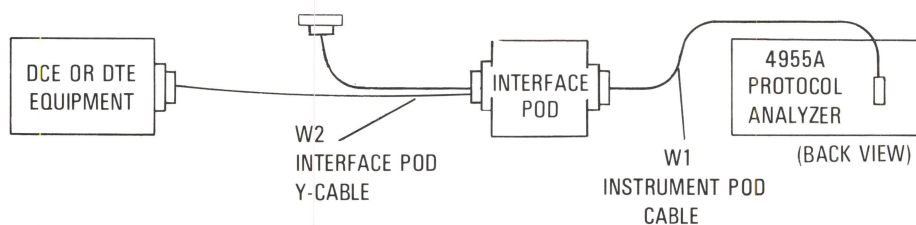

Figure 3-2. Simulate Mode Operation
1. Connect cable W1 from the Protocol Analyzer to the Interface Pod and W2 from the Interface Pod to the network under test. The cable connectors are keyed to prevent backwards connections. Figures 3-2 and 3-3 illustrate typical simulate and monitor mode connections.